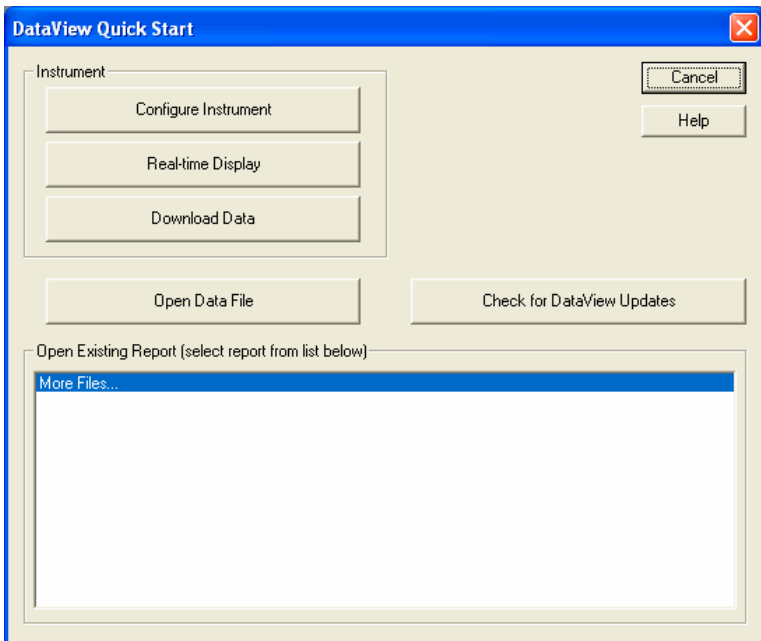

Figure 7-5
- DataView® will open and display the **DataView Quick Start** window (see Figure 7-5).